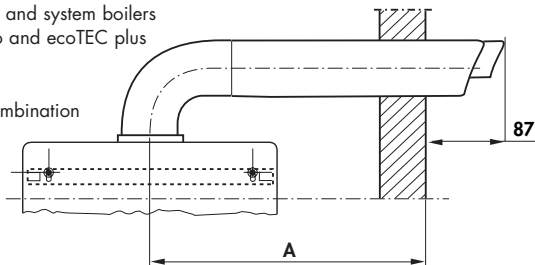

Fig. 3.10
- Measure the distance from the outside face of the wall to the centre of the fan outlet on the boiler (fig. 3.10).